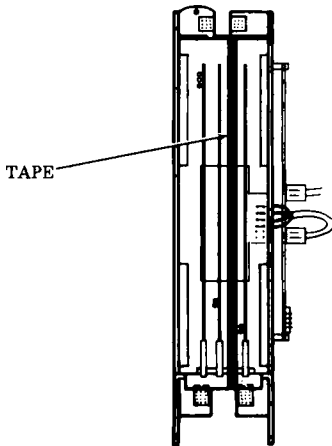

Fig. 15
- 5.06 Secure the ends of the controller together with a strip of tape. See Fig. 15.